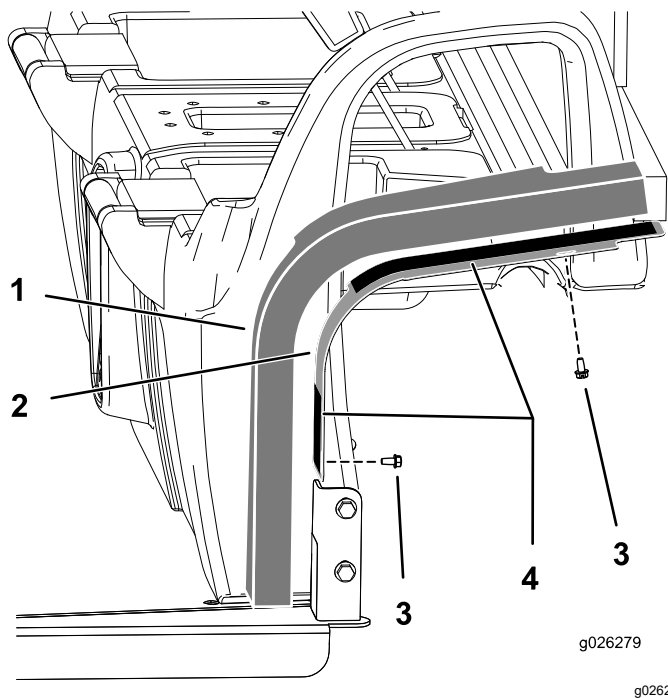

Figure 7
- Fasten the mounting plates onto the cab using 4 bolts (1/4 inch) as shown in Figure 7.
- Remove the paper backing from the double stick tape on the mounting plates (Figure 7).
4. Install the foam panels onto the assembly (Figure 7).